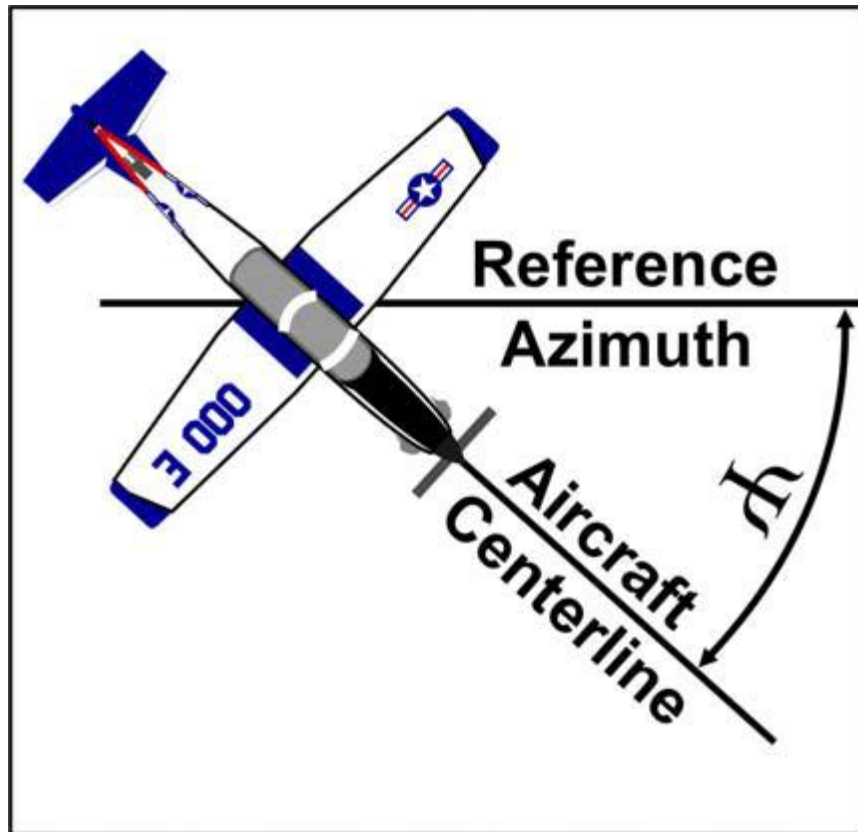

Figure A-6 Yaw Angle
**YAW ANGLE:** Relates to the displacement of the airplane centerline from some reference azimuth. This term is normally used in wind tunnel tests and is presented here only to eliminate or minimize the tendency to confuse it with angle of sideslip or yaw rate (Figure A-6).